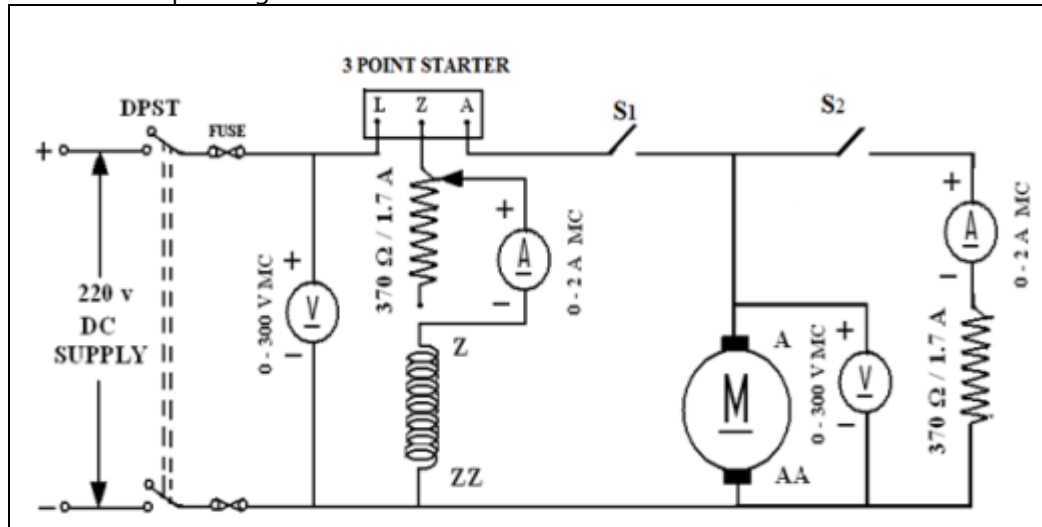

Figure 10 - Retardation Test
3. Calculate the efficiency of DC shunt machine when time taken for the speed to fall from 1030 rpm to 970 rpm is 15 seconds with field normally excited in Figure 10.